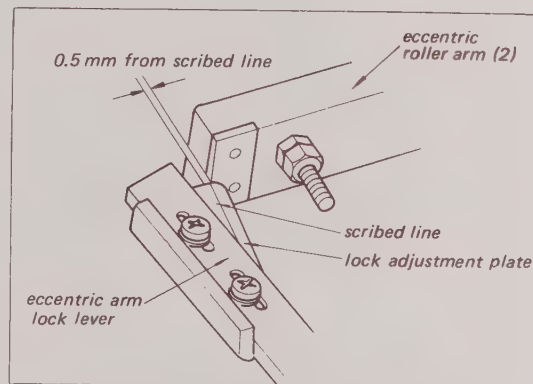

Fig. 5-35. Solenoid A adjustment
8. Refer to Fig. 5-35. Loosen the solenoid mounting screws and position the solenoid carefully back and forth so that the tip of the Eccentric Roller Arm (2) is latched by the Eccentric Arm Lock Lever, and that the tip of the Eccentric Roller Arm (2) is within 0.5 mm of the line scribed on the lock lever. Confirm that mechanical shock does not release latching.